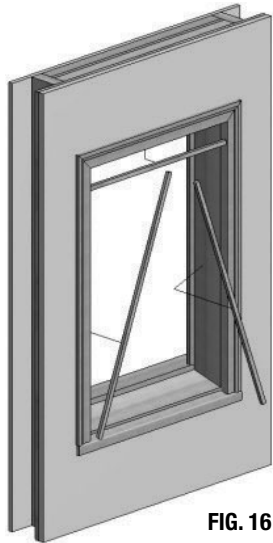

FIG. 16
- D) If applicable, remove parting stops from head and side jambs. (Fig. 16)